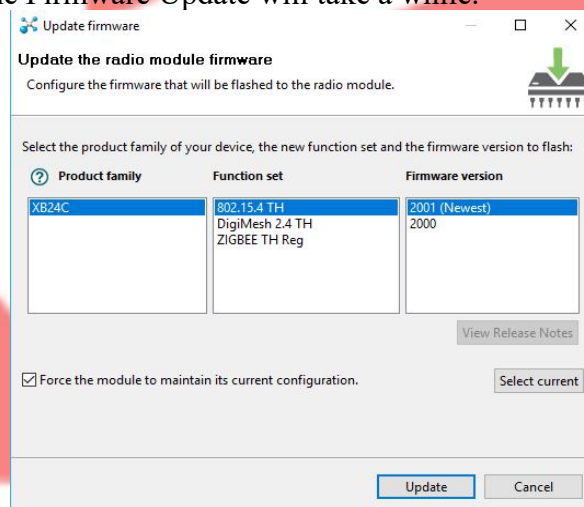

Figure 10: XBee Update Firmware
8. **Updating the XBee Firmware** - Select the Setting as shown in Figure 10 and click on Update. The Firmware Update will take a while.